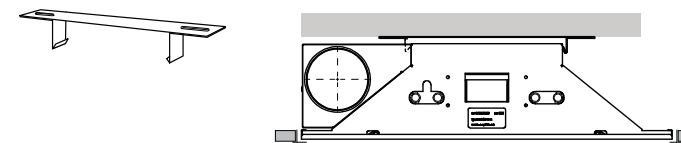

FIGURE 4. Juno IQHC hanging bracket.
- 2) Brackets shall be provided for rod installation (See **FIGURE 4**). These brackets will have a snap type connection with the beam that will allow for the beam to be repositioned along the length of the beam. The brackets will have oval mounting holes which will allow for the beam to have fine adjustment perpendicular to the length beam while the metal bracket will have gross adjustment along the same adjustment path.